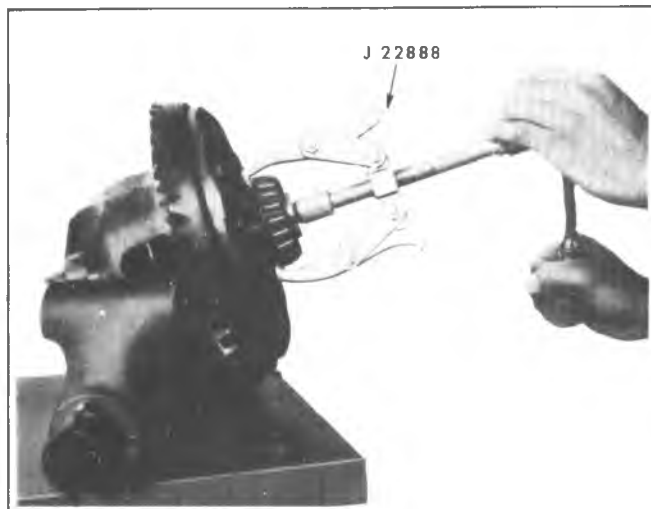

Fig. 16F--Removing Differential Side Bearings
3. Remove differential bearing cone and roller using Puller J-22888, with Plug J-8107-3, as in figure 16F. Tag cone and rollers for assembly.